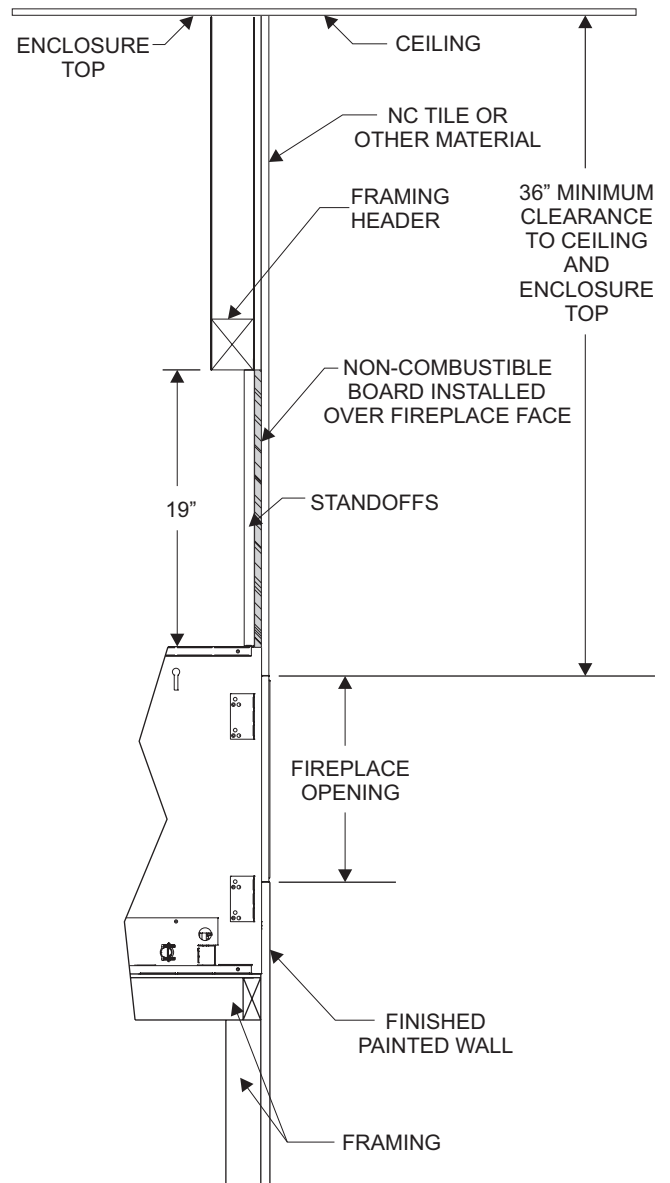

**Figure 55**
- Screws are allowed in framing and top mounting brackets. No screws are allowed into the fireplace face. **See Figure 55.**